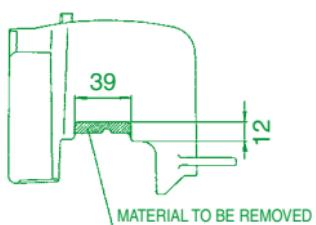

Fig. 3
- Fit the head gasket (8) and the head (6) on the stud bolts fully home on the cylinder.
- Fit cover on cylinder (modified as shown in Fig. 3), conveyor and the new spark plug (see section “Important notes”).